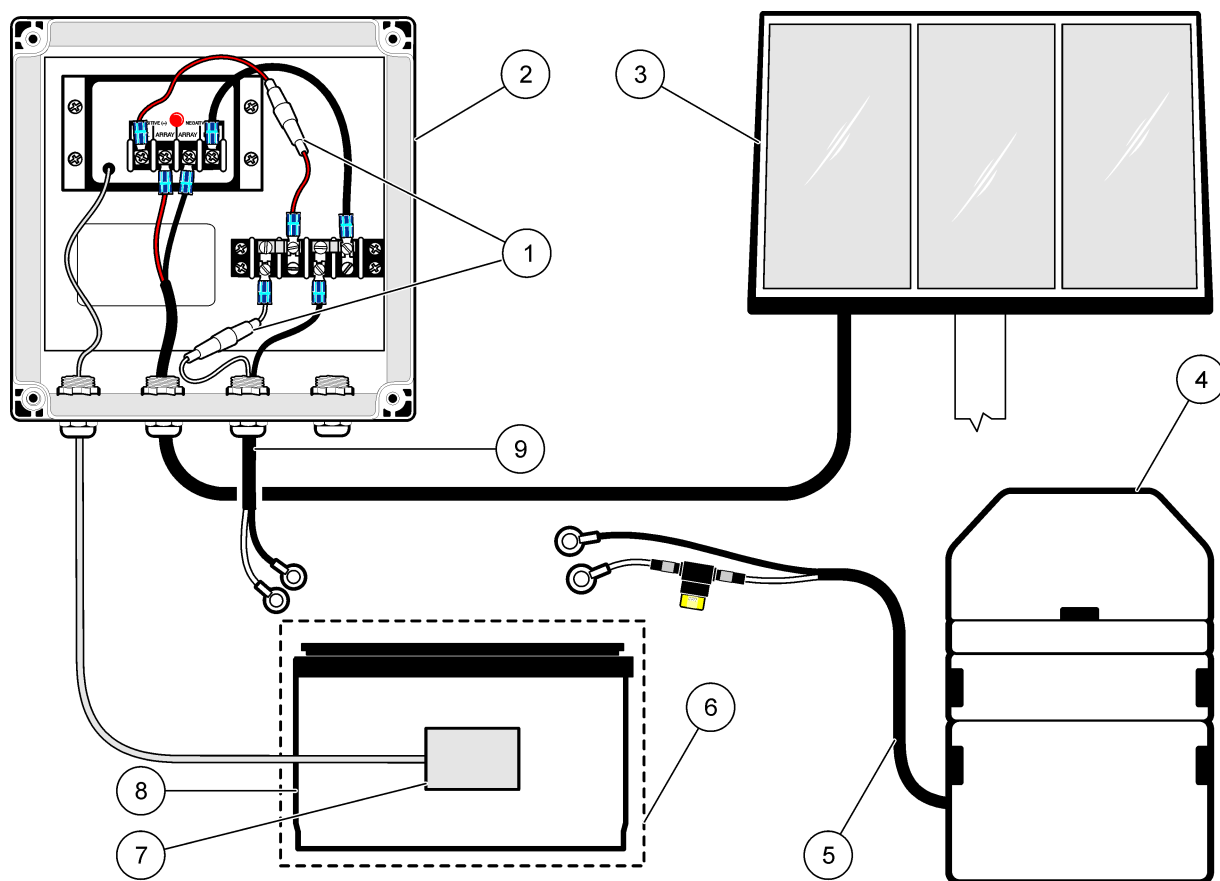

Figure 8 Set up a 900 MAX or SD900 sampler
5. Remove the nut on the battery cable strain relief and feed the battery cable wires through the third hole on the regulator. Thread the nut over the cable wires and tighten to secure. Connect the spade terminals to the screw terminals. Refer to Figure 8 on page 10.